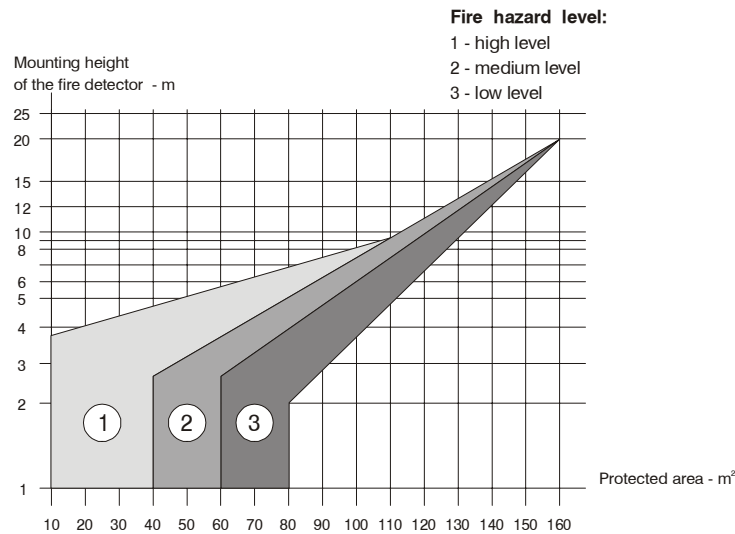

Fig. 3
2.5. Protected area	- see fig. 3